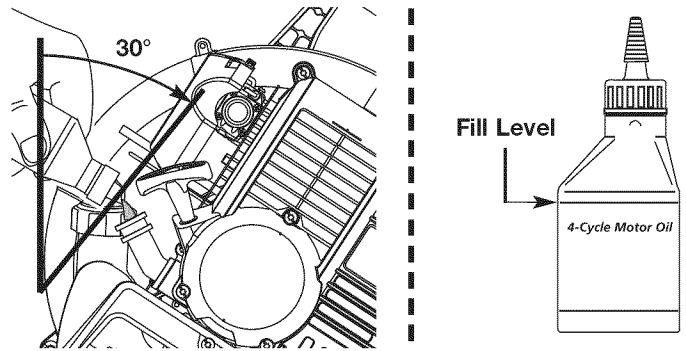

Fig. 23
4. Tilt the unit 30° to the side (Fig. 23).
NOTE: Use the bottle and spout saved from initial use to measure the correct amount of oil. The top of the label on the bottle measures approximately 3.04 ounces (90 ml) (Fig. 23). Check the level. See Checking the Oil Level. If the level is low, add a small amount of oil and recheck. Do not overfill (Fig. 23).